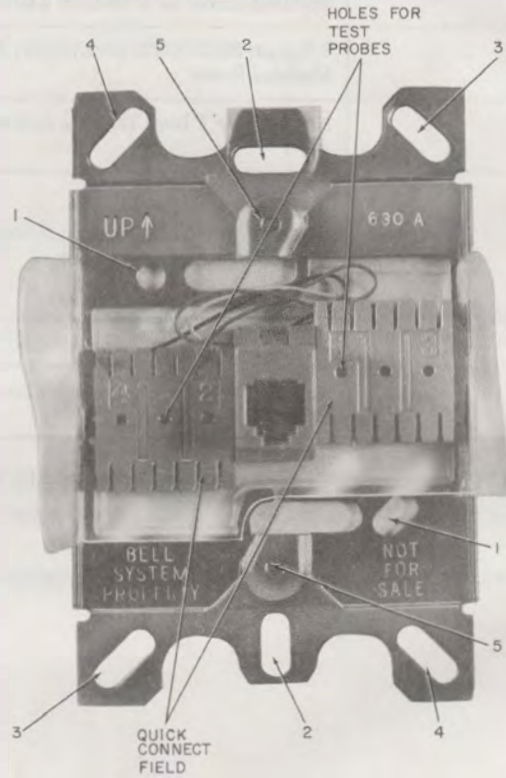

Fig. 8—630A4 Connecting Block Mounting Arrangement†
2.09 The **630A4** connecting block (Fig. 9) is a plug-in wall set mounting and will also accept a modular type mounting cord. It consists of a connecting block (Fig. 8) and 1034A mounting plate (Fig. 9). Two 3/16-inch 800413577 (P-41357) cover mounting screws, two 5/16-inch 840705008 and two 3/4-inch 803355825 (P-335582) flathead machine screws are included in a fastener package. The 630A4 connecting block is now available as a replacement for the 630A6 and should be ordered accordingly. The 630A4 connecting block is now being manufactured using a different mounting bracket as shown in Fig. 6, 7, and 8.
(a) A fastener package is provided with the 630A4 connecting block consisting of two 3/16-inch 800413577 (P-41357) cover mounting screws, two 5/16-inch 840705008 and two 3/4-inch 803355825 (P-335582) flathead machine screws. Depending on mounting arrangement, select proper fasteners from Table B and mount connecting block using holes designated in Fig. 8. The connecting block should be straight before tightening screws. When installing on an underflush outlet box or plaster ring, the connecting block bracket should be tightened just enough so that the assembly is tight on the wall once mounting plate is attached and tightened down. Further tightening will distort the bracket excessively.
terminations per lead. One termination is required for the jack conductor. An access for a test point is also provided (Fig. 8).